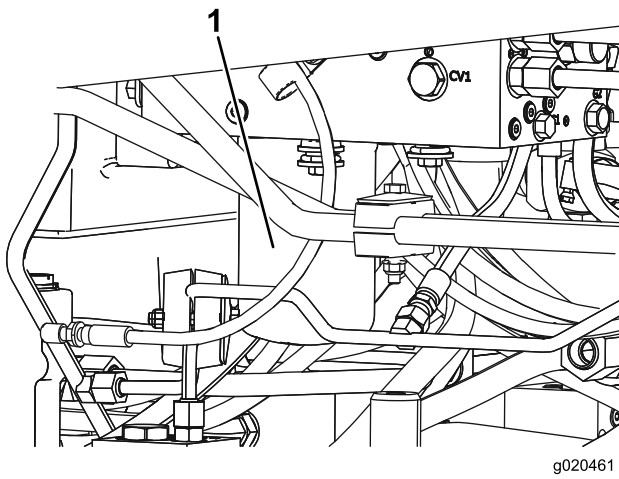

Figure 70
5. Repeat the procedure on other filter (Figure 70).